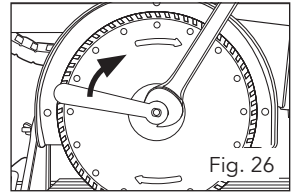

Fig. 26
3. Using the nut wrench (30), loosen the flange nut in the direction of rotation of the cutting disc (2). (**Note.** Left-hand screw-thread.) To do so, place the supplied wrench (30) on the motor shaft and apply counterpressure (Fig. 26).